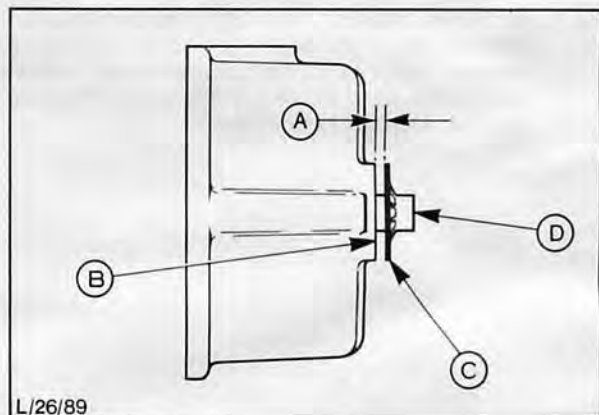

Fig. 93. Commutator end cover
19. Check that when armature is pushed against thrust washer in commutator end plate, clearance between 'Spire' retaining ring and bush face is no more than 0,25 mm (0,010 in). Fig. 93. If clearance is greater drive 'Spire' ring clip further down armature shaft. Fit end cap seal to commutator end cover.